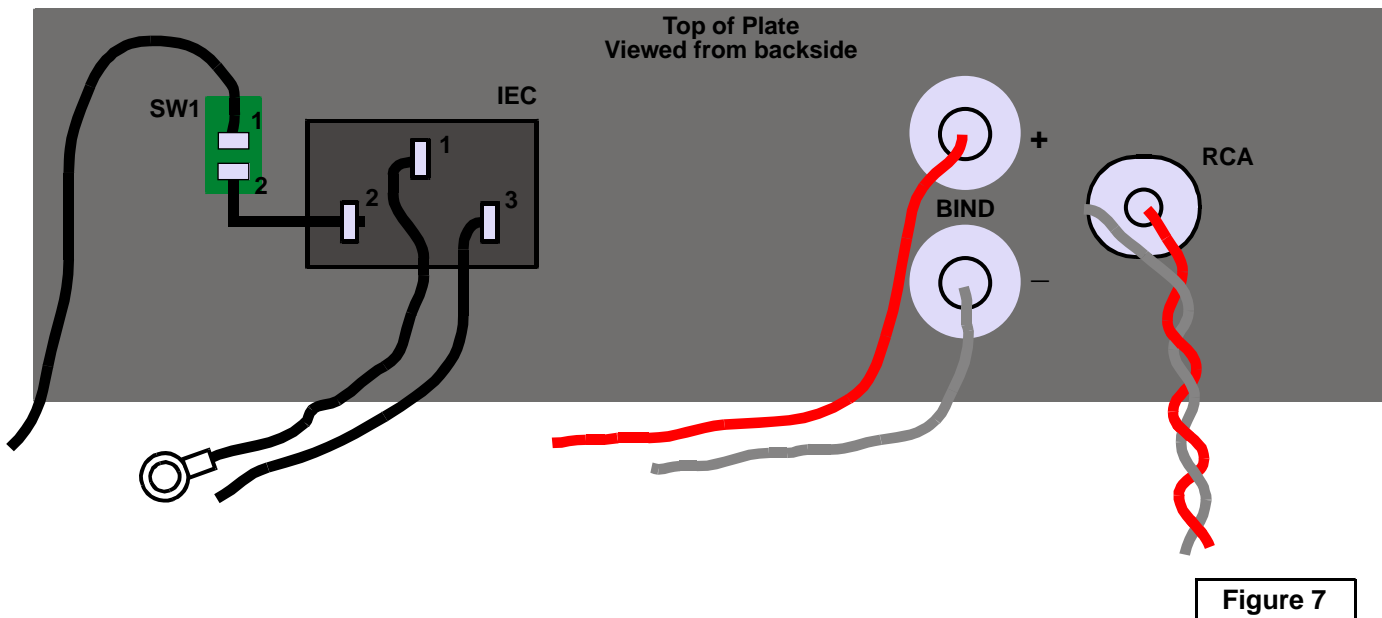

Figure 7
9) This is the final phase of the assembly process. Refer to figures 7 and 8 for this phase.
Locate the two black rear panels. Note these panels are mirror images of each other. Mount the power switches SW1 and IEC connectors to these rear panels as shown in figure 7.
Cut a piece of black hookup wire approximately 4 inches in length and solder a terminal ring to one end and then solder the other end of the loose wire to terminal 1 of the IEC connector as shown in figure 7.